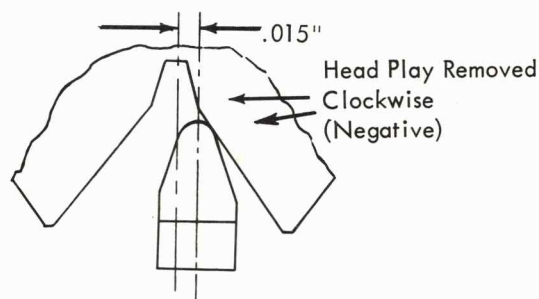

FIGURE 74. Type Head Homing
8. Preliminary Typehead Homing - Half-cycle the machine using an upper case zero rotate (latched home) character. Loosen the set screw in the bottom of the rotate pulley and slip the typehead so that the detent will enter .010" to .020" from the center of the detent notch, on the negative side of the notch, when the head play is lightly removed in the negative direction (Fig. 74).